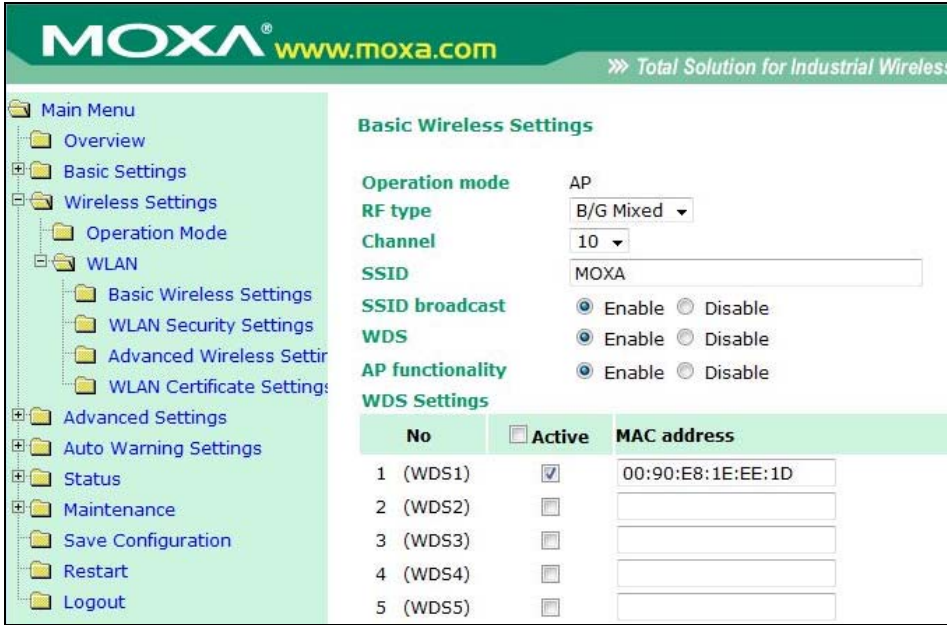
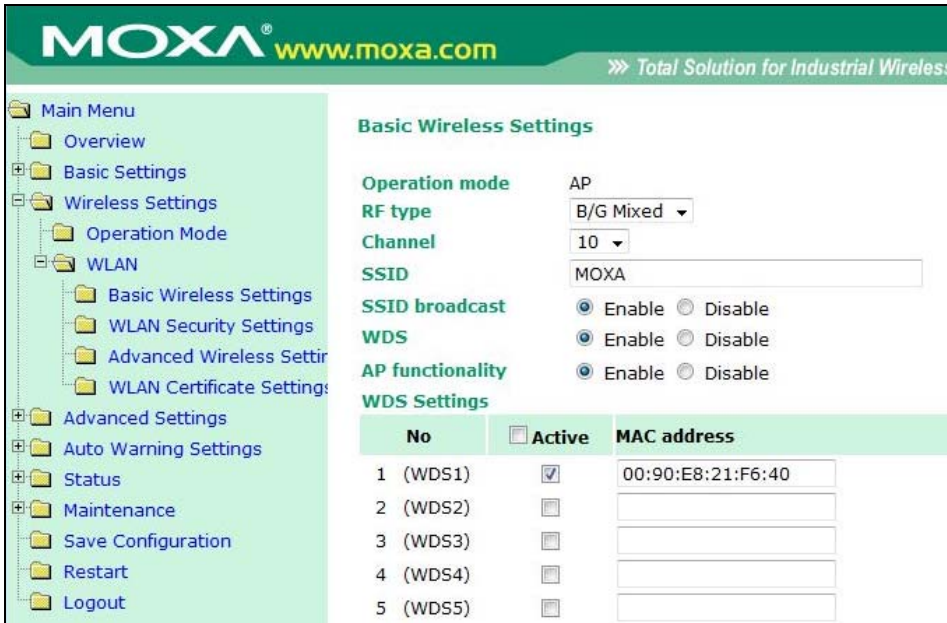

Figure 36: WDS Mode Enabled (Communications Gateway AP)
Figure 37: WDS Mode Enabled (Local Network AP)
- i. Choose one AWK-3121/4121 as the communications gateway to the local network. Enable WDS mode and exchange MAC addresses with this device (Figure 36) and the other existing AWK-3121/4121 in the local network (Figure 37) to which it will be connected.
- i. Choose one AWK-3121/4121 as the communications gateway to the local network. Enable WDS mode and exchange MAC addresses with this device (Figure 36) and the other existing AWK-3121/4121 in the local network to which it will be connected.
- iii. Use a directional antenna to communicate with a mirror setup on the other end. WDS mode should be enabled on the AWK-3121/4121s communicating via directional antennas (Figure 37).